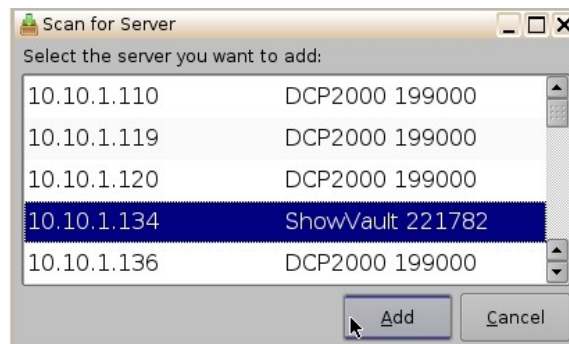

Figure 43: Scan for Server Button
- Click the Scan for Server button to check and see if any servers are present on the network. The following window will appear displaying the unit type, e-S/N, and IP as well (Figure 43):
- Scroll and select the server, then click the Add button (Figure 43). Once the server has been selected the Content Feed Manager GUI will automatically be updated with the default credentials.